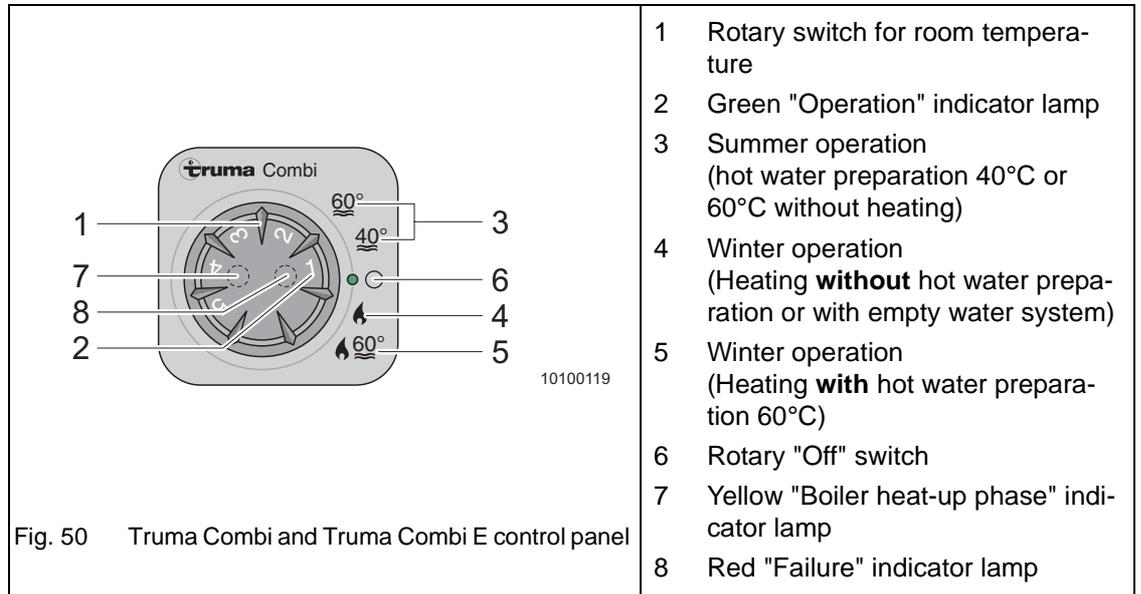

Fig. 50 Truma Combi and Truma Combi E control panel
Adjust the room temperature with the rotary switch "Room temperature" (Fig. 50/1). Coloured LEDs for operating mode indicators ((Fig. 50/2) and (Fig. 50/7)) and failure (Fig. 50/8) are located in the rotary switch "Room temperature".
- ➔ Set to gas or electric operation on the control panel (Fig. 50).
- ➔ Set the rotary switch to summer mode (Fig. 50/3) 40°C or 60°C.
- ➔ When the equipment is switched on, the green and the yellow indicator lamps (Fig. 50/7) go on.
- ➔ When the set water temperature (40°C / 60°C) is reached, the water heater is switched off and the yellow indicator lamp (Fig. 50/7) goes off.
- ➔ Set the desired operating mode on the control panel (Fig. 50).
- ➔ Set the rotary switch to "60°C heating" (Fig. 50/5).
- ➔ Turn the rotary knob (Fig. 50/1) on the control panel to the desired thermostat setting (1-9) for room temperature.
- ➔ The green "On" indicator lamp (Fig. 50/2) and the yellow water heating indicator lamp (Fig. 50/7) on the control panel go on.
- ➔ The yellow indicator lamp (Fig. 50/7) is on during heating and goes off when the water temperature is reached (60°C).
- ➔ Set the rotary switch to "winter mode" (heating without hot water preparation) (Fig. 50/4).
- ➔ Turn the rotary knob (Fig. 50/1) to the desired thermostat setting (1 to 5).
- ➔ After the heater is switched on, the green "On" indicator lamp (Fig. 50/2) on the control switch goes on.
- Set the rotary switch to "Off" (Fig. 50/6).
When the heater malfunctions, the red indicator lamp (Fig. 50/8) is on.